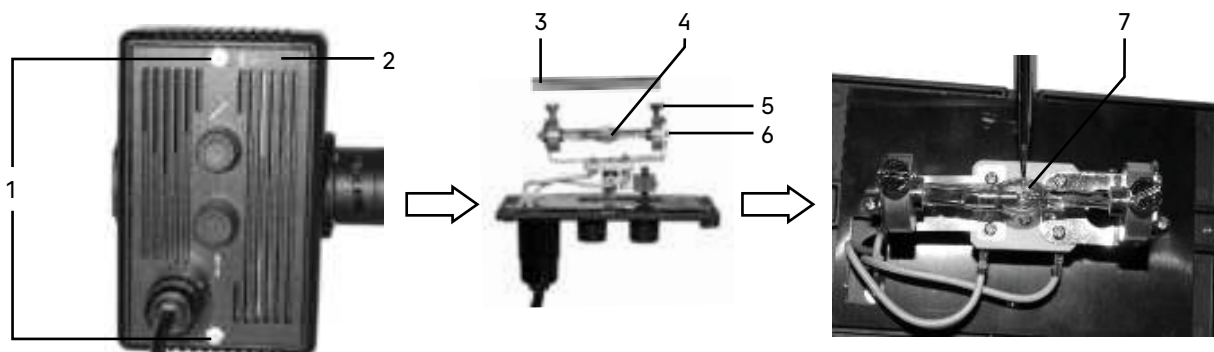

Fig. 6b. Installing the mercury lamp
9. Install the mercury lamp, as shown in Fig. 6b.